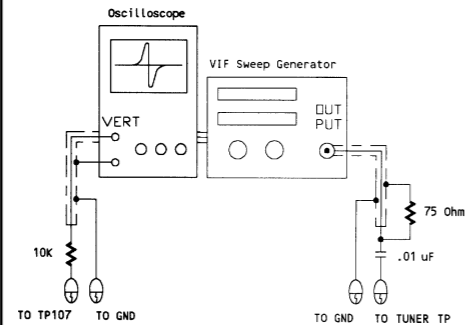

Fig. 5
A. PREPARATION STEP (SEE FIG.5)